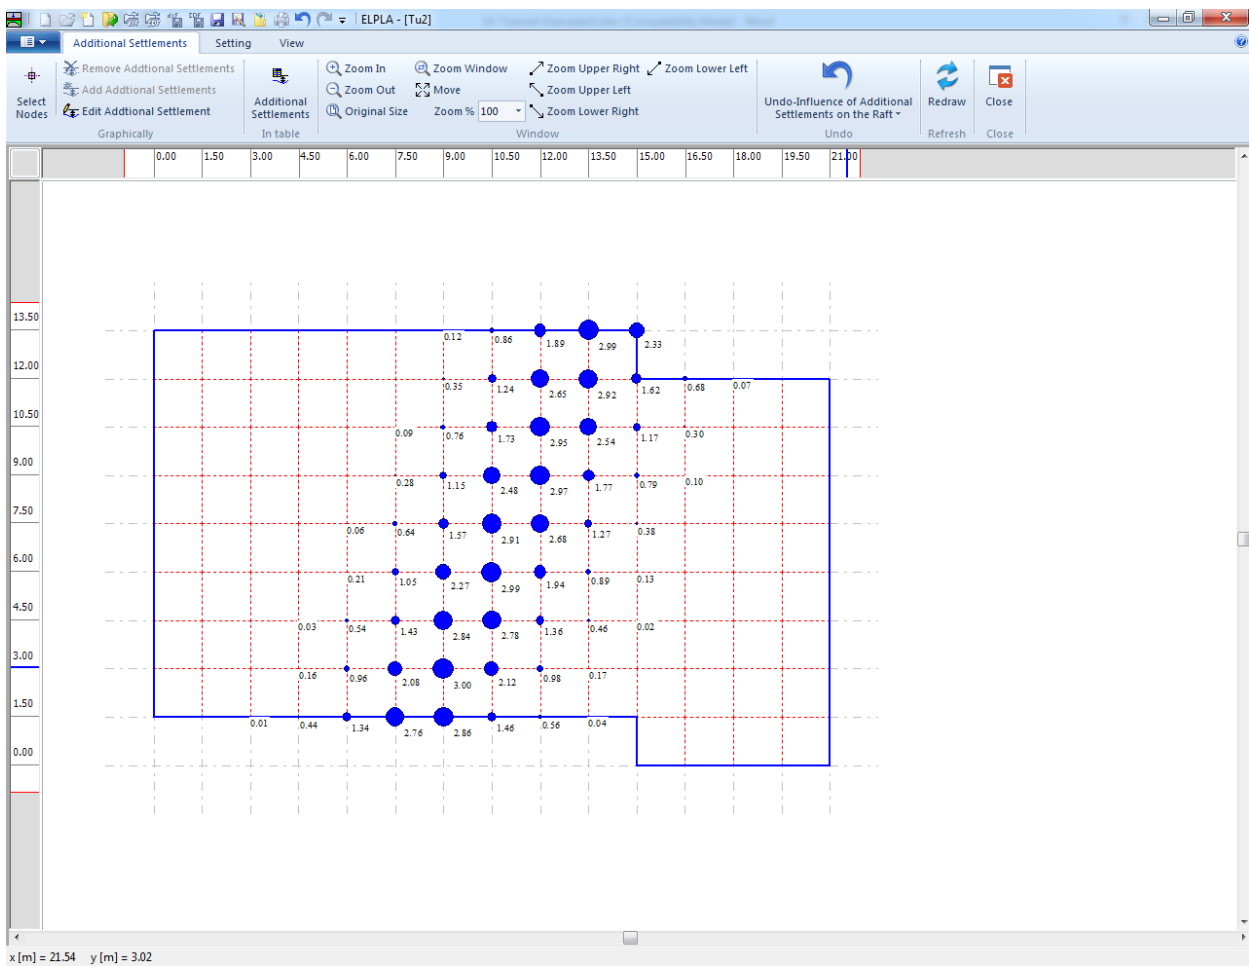

Figure 13.41 Additional settlements
After you have completed the definition of the additional settlements, the screen should look like the following Figure 13.41
- Choose "Save" command from "File" menu in Figure 13.41 to save the additional settlements
- Choose "Close" command from "File" menu in Figure 13.41 to close the "Additional settlements" Window and return to *ELPLA* main window.